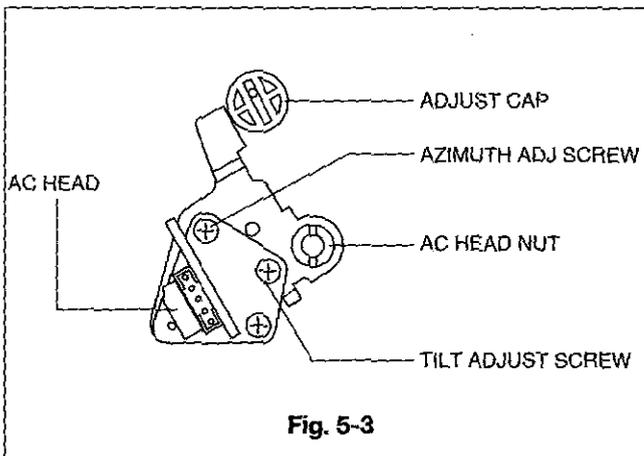

Fig. 5-3
- b. If a gap observed between the lower Flange of (D) and the lower edge of tape, adjust the Tilt Adjusting Screw CW until the tape travels along the lower Flange.
C. The X Position Adjustment for Interchangeability (refer to Fig. 5-3)